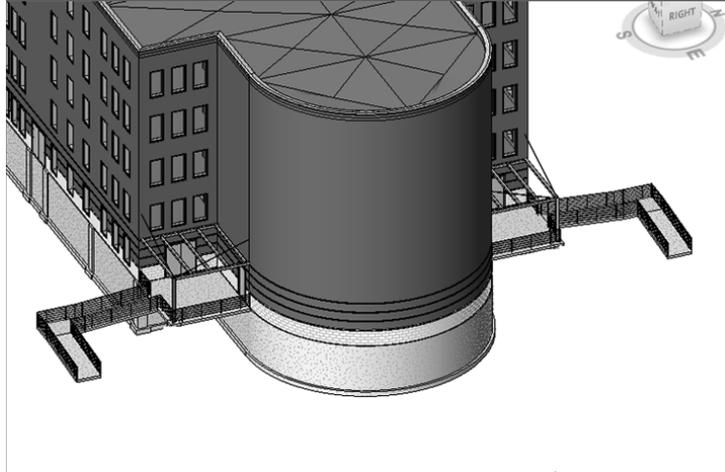

FIGURE 10.85: The two ramps
6. Mirror the slab, the ramp, and the railing to the other side of the building, as shown in Figure 10.85.